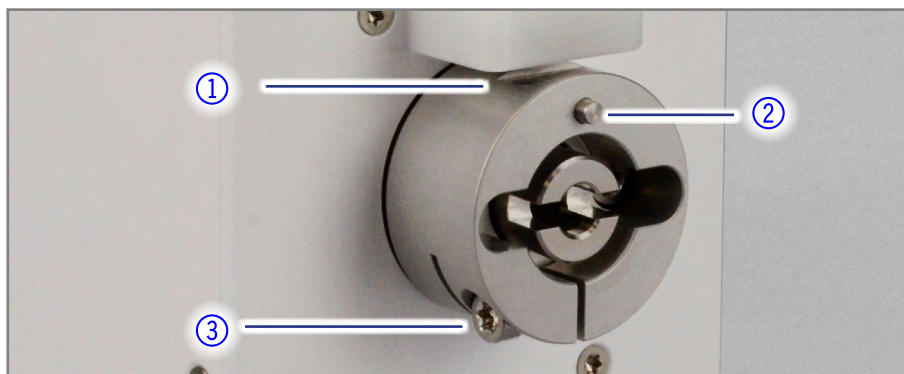

Fig. 5 Valve drive with mounted VICI valve adapter
3. Screw the supplied valve head adapter with the provided screws (TX20) onto the valve drive. Make sure that the adapter is correctly oriented (Fig. 5: RFID tag ① and adapter pin ② up, turnbuckle screw ③ down and facing left).